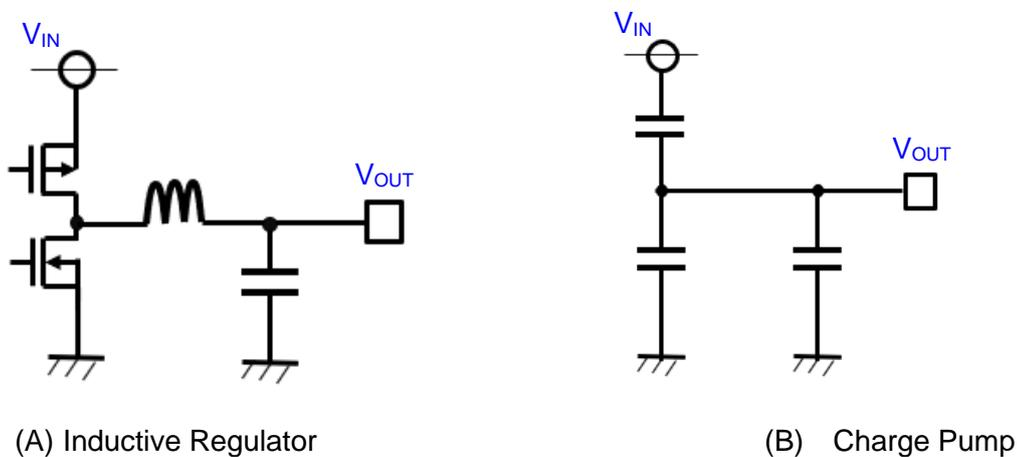

Figure 30. Inductive Regulator and Charge Pump
Figure 30(A) shows an inductive regulator called a buck converter. There is an inductor between switching node to  $V_{OUT}$ , so it would be prevented transient change of current when a hard short happened.
For Figure 30(B), it would be high di/dt condition with a hard short because MYC0409-NA does not have a large inductor but has low impedance of power FETs. In general, inductance would be reduced the current slope of inductor and impedance of power FETs would be reduced peak current. Therefore, “Hard Short Circuit Condition” is written as below.